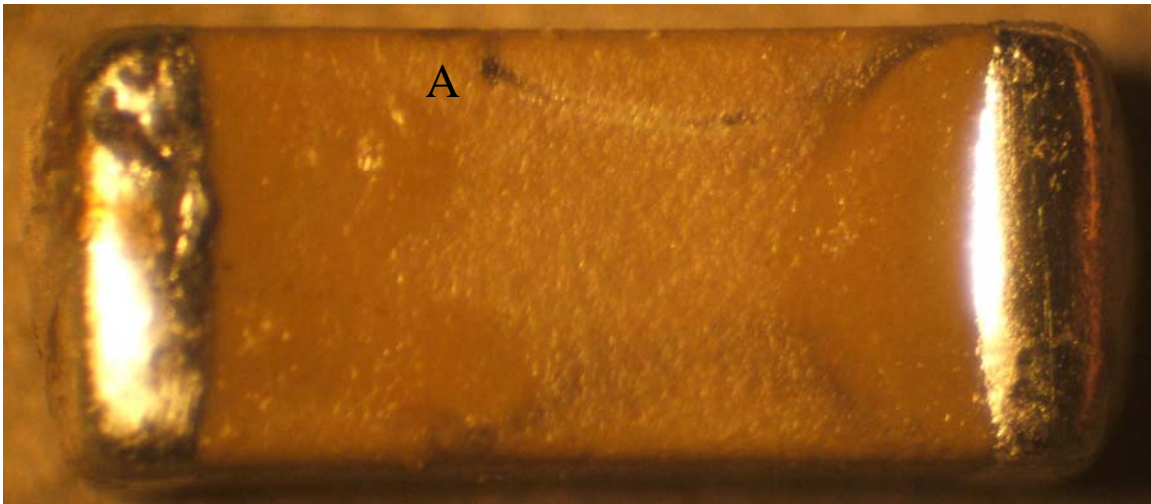

Figure 5. Bottom of Capacitor
An example of this type of failure is shown in Figures 5 and 6. Both the capacitor bottom and PWB surface are shown. The point of arc inception (A) is clearly visible in both photos.